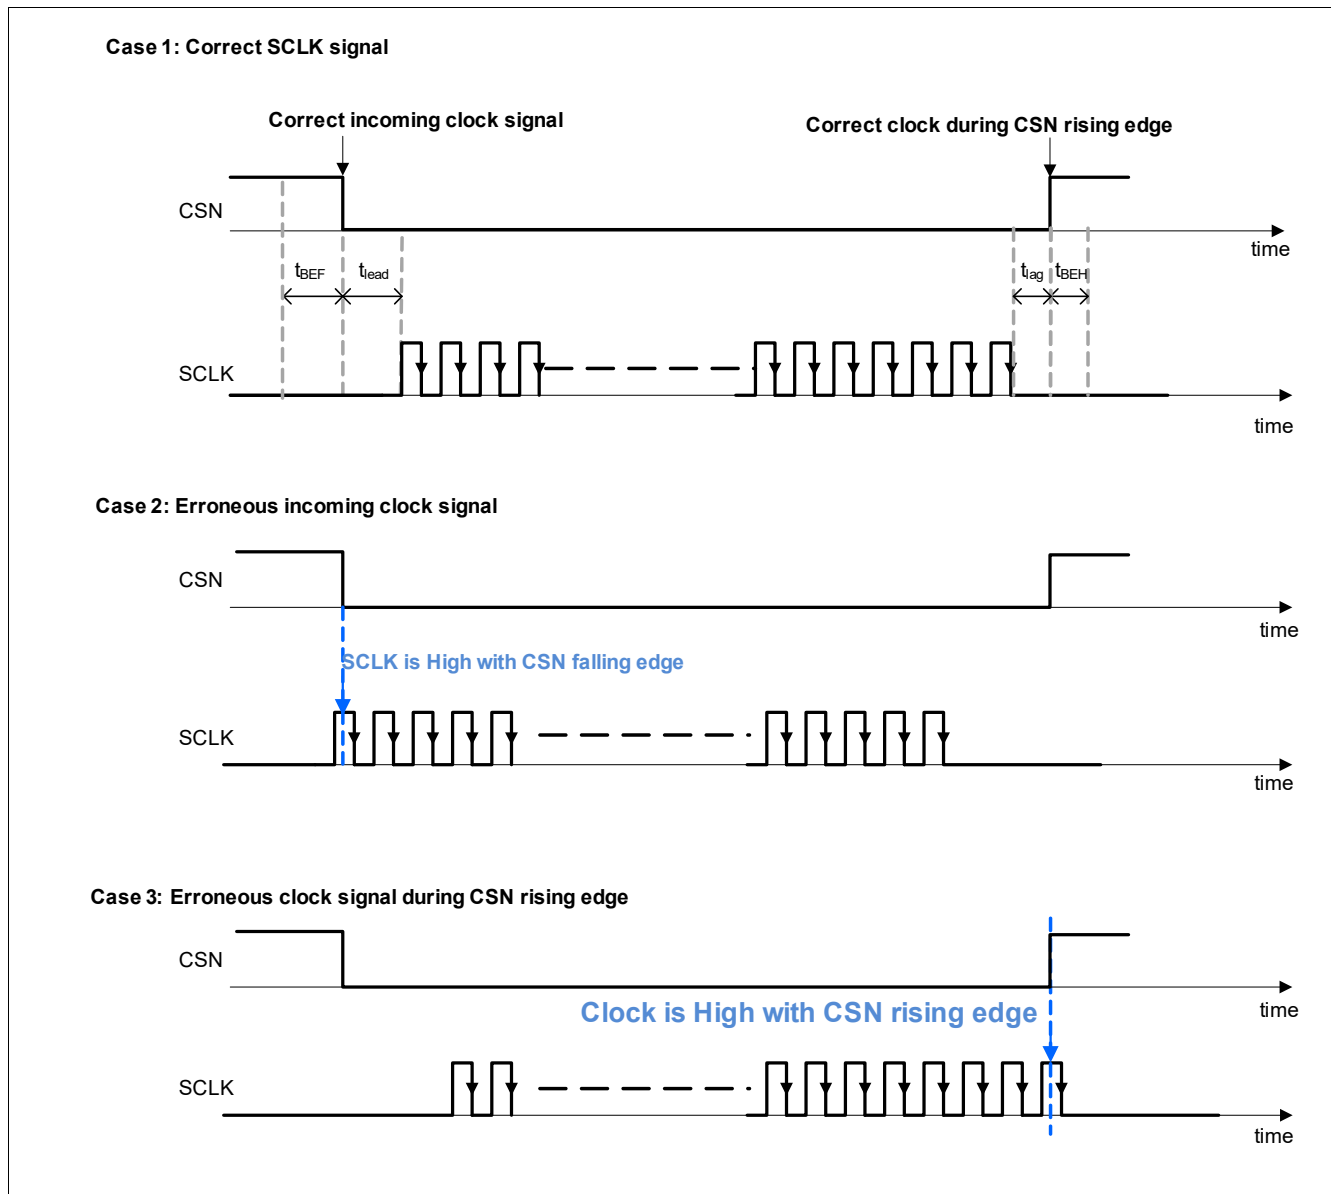

Figure 10 Clock polarity error
- A clock polarity error is detected (see **Figure 10** Case 2 and Case 3): the incoming clock signal was High during CSN rising or falling edges (protocol error).